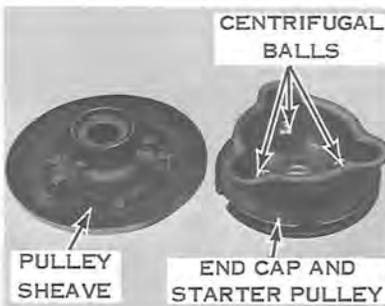
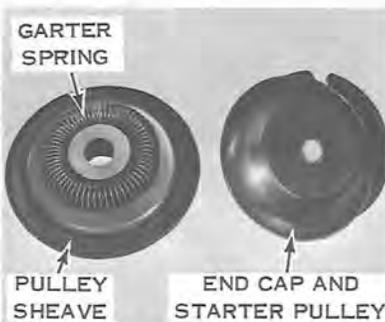

Figure 9-9. (1965)
Figure 9-10. (1966)
- b. Place centrifugal balls (1965 models) in end cap and starter pulley assembly (see Figure 9-9). Place garter spring (1966 models) on sliding sheave (see Figure 9-10).